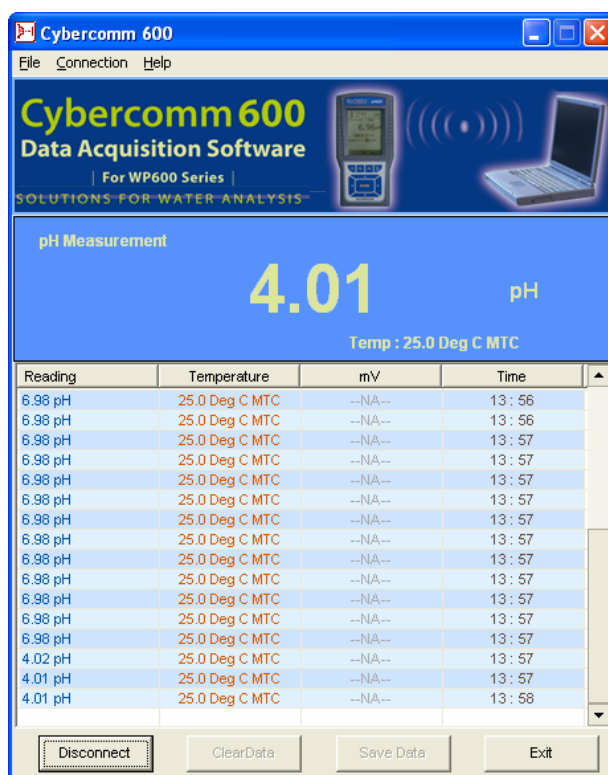

Figure 21 : Transferring measurement data continuously
6. When CyberComm finds the meter, press **Connect** button. The IrDA link is established. The measurement readings are sent to CyberComm continuously at the specified time interval as long as IrDA link is not disconnected. The transferred readings are displayed in the CyberComm screen (Figure 21).